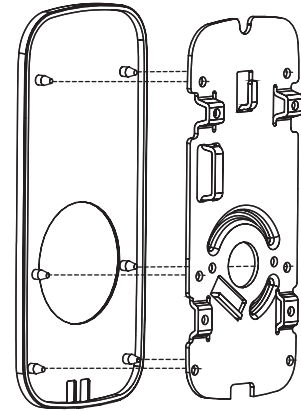

Figure 2B
- Ensure that gasket on inside mounting plate is properly fitted (Fig. 2B).